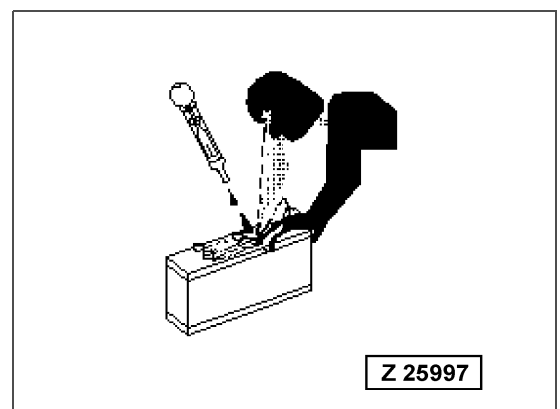

Fig. 2-49
- If acid gets into your eyes (Fig. 2-49), flush them immediately with large amount of water and seek medical attention.